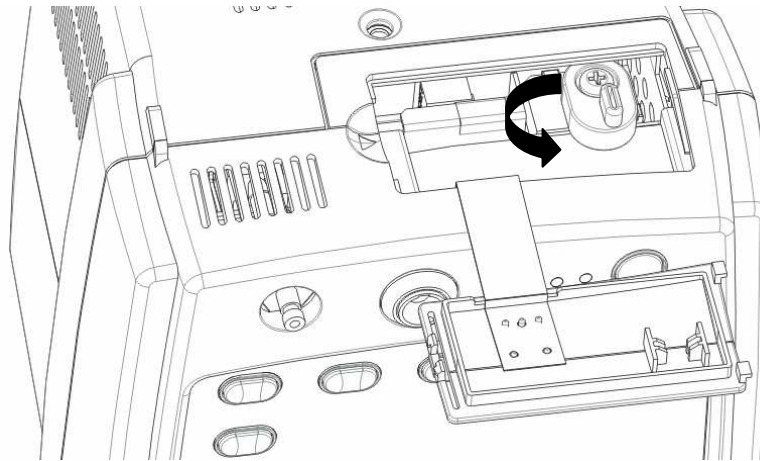

Figure 3-3
4. Push the battery to the bottom and flip the stopper back to the original position, as Figure 3-3 shows.